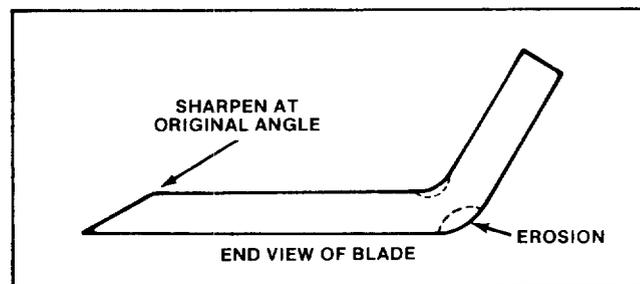

Figure 21
7. Using a file, sharpen cutting edge at both ends of the blade (Fig. 21).
Check cutter blade every time rider is tipped on end. If lock nut holding blade is loose, tighten it to 45-60 ft-lb (61-81 N·m). If blade or sail (Fig. 21) at end of blade is worn, eroded, or cracked, replace the blade. Replace the blade if it is bent or out-of-balance. Always use genuine TORO replacement blades to assure safety and optimum performance. NEVER USE WILL-FIT REPLACEMENT BLADES.
7. Since rider is tipped on end, check condition of blade (Fig. 21).